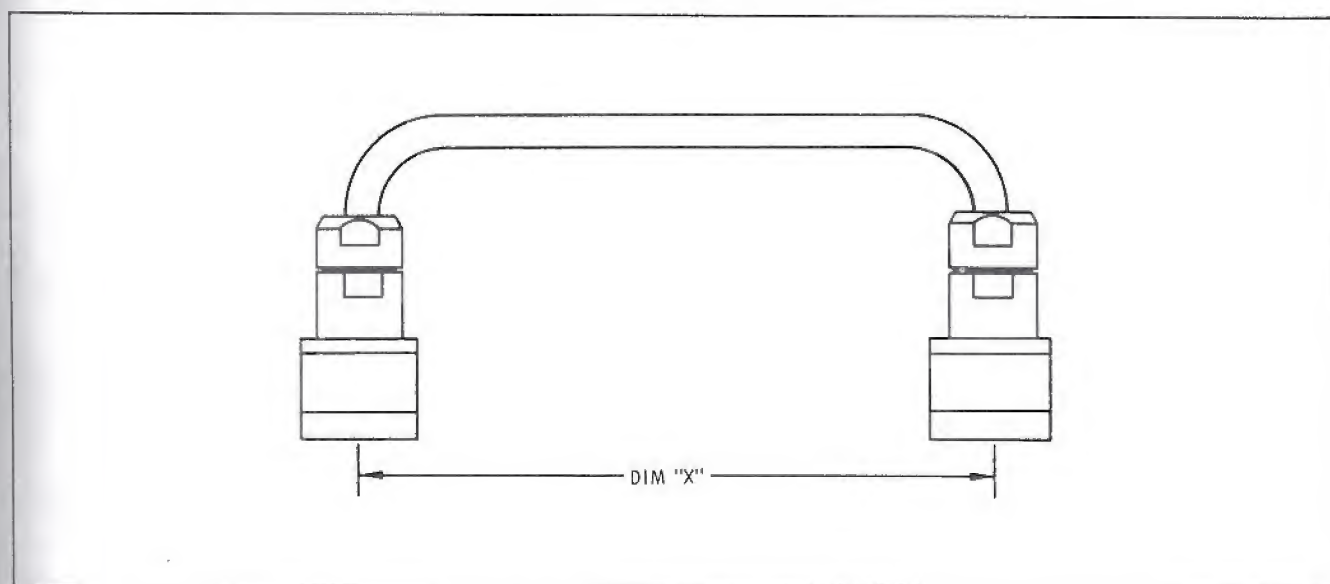

Figure 1-3. RF Interconnect Cable W1
1-27. Table 1-3 lists the accessories supplied with the Preselector. The accessories supplied are for a standard installation which provides for the Preselector to be mounted on an 8555A Spectrum Analyzer and fastened with a joining bracket kit. A different mounting installation will require a different RF cable to connect between the Preselector output and the Spectrum Analyzer input (Figure 1-3). The power cable supplied with the instrument is selected at time of shipment. Selection is based on shipping destination. Figure 2-2 illustrates the different power cable connectors that are currently available.
**See paragraph 1-25 and Figure 1-3; item not supplied with Option 005.
1-31. The rigid RF Interconnect cable used to couple a Preselector to a Spectrum Analyzer is illustrated in Figure 1-3. Standard Preselectors are made to operate above the Spectrum Analyzer. The possible mounting configurations, connector types, dimensions and part numbers are indicated in Table 1-4. For information regarding RF Interconnect cables used when the Preselector is mounted **BELOW** the Spectrum Analyzer, contact your local Hewlett-Packard Sales Office.
2-18. When used with the Spectrum Analyzer, the Preselector should be both mechanically and electrically connected to the Spectrum Analyzer. The preferred mounting configuration is with the Preselector mounted on top of and secured to the Spectrum Analyzer. A joining bracket kit is supplied to secure the Preselector to the analyzer. A rigid coaxial cable (for the preferred mounting configuration) is supplied to connect the OUTPUT on the Preselector to the INPUT connector of the Spectrum Analyzer. For mounting installations other than the preferred configuration refer to Figure 1-3 and Table 1-4 for cable information.